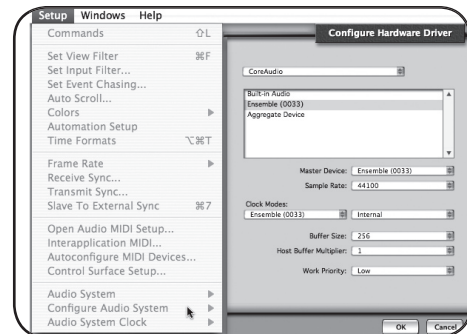

figure 28
1. In Digital Performer, open **Setup > Configure Audio System > Configure Hardware Driver**. (figure 28)